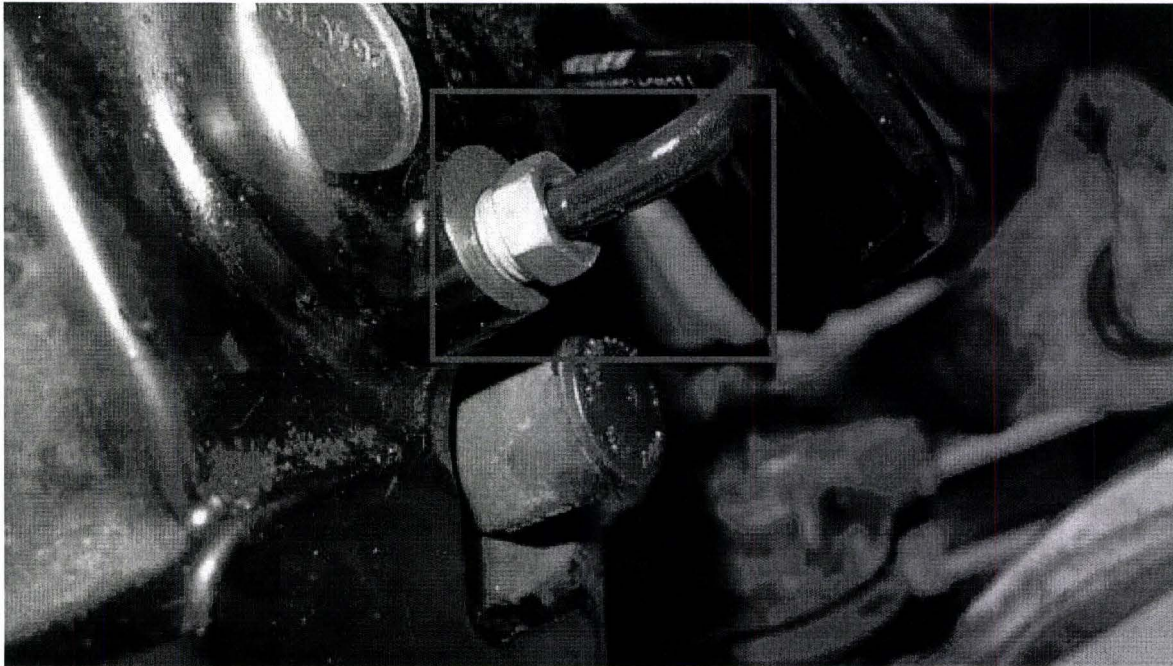

Figure 7
- Hand tighten the lower caliper pipe nut into the caliper (Figure 7)